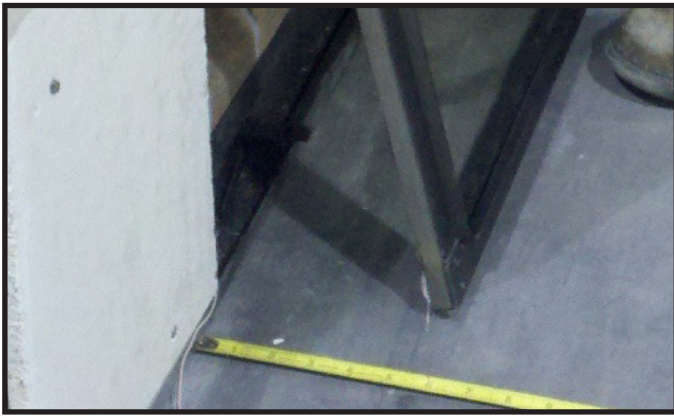

Figure 11.4 Positioning Glass
2. Position the fixed glass assembly so that it is about eight inches from the face of the appliance. See Figure 11.4. An arch decorative front application will require the glass to be installed at a steeper angle.